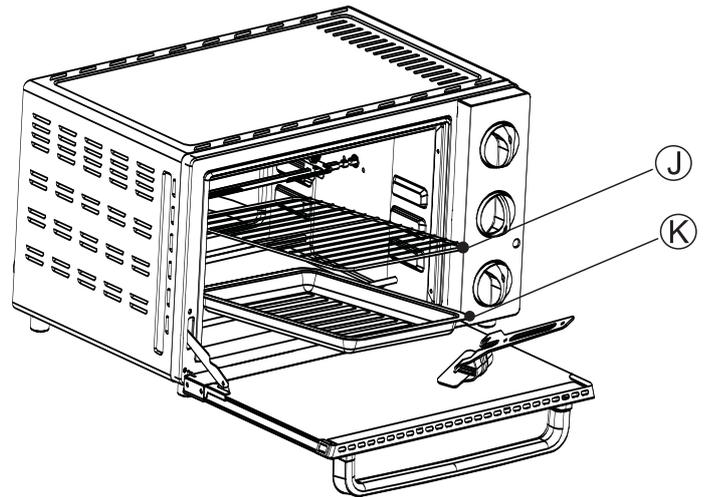
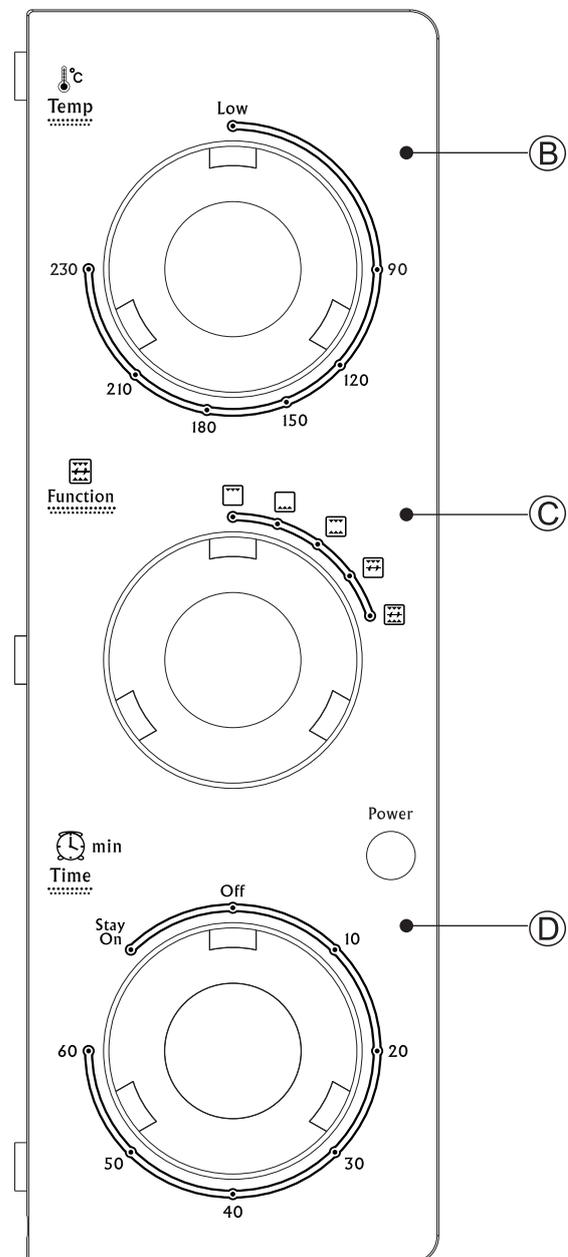

fig. 1
fig. 2
- The oven, Grill Rack (J) Food Tray (K) are coated in oil that needs to be burnt off before using the oven.
1. Insert the Grill Rack (J) Food Tray (K) into the oven.
**See fig. 1.**
2. Set the Function dial (C) to  to turn the oven on, and then set the Oven Temperature dial (B) to maximum.
**See fig. 2.**
4. Once the oven has stopped smoking and the smell has gone, Set the Oven Temperature dial (B) to LOW and Time dial (D) to OFF.